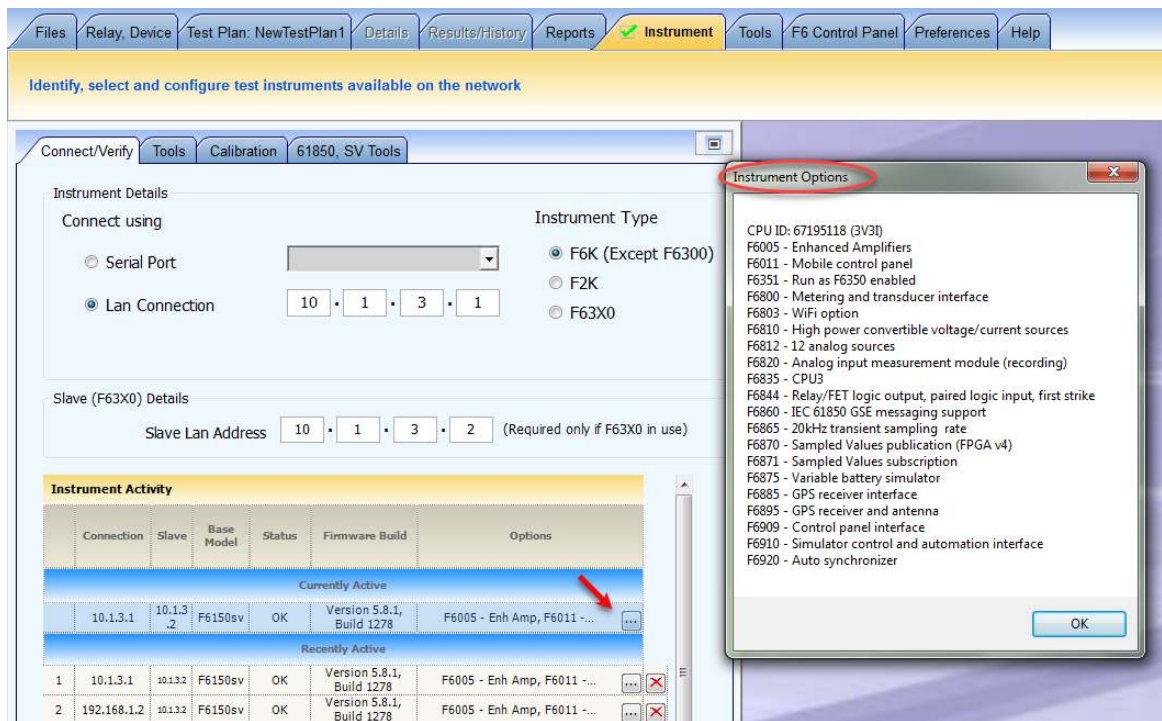

Figure 11. F6150 CPU3 instrument options after update
- 36) Click the box with the ellipsis (three dots) to view the instrument options (see Figure 11)